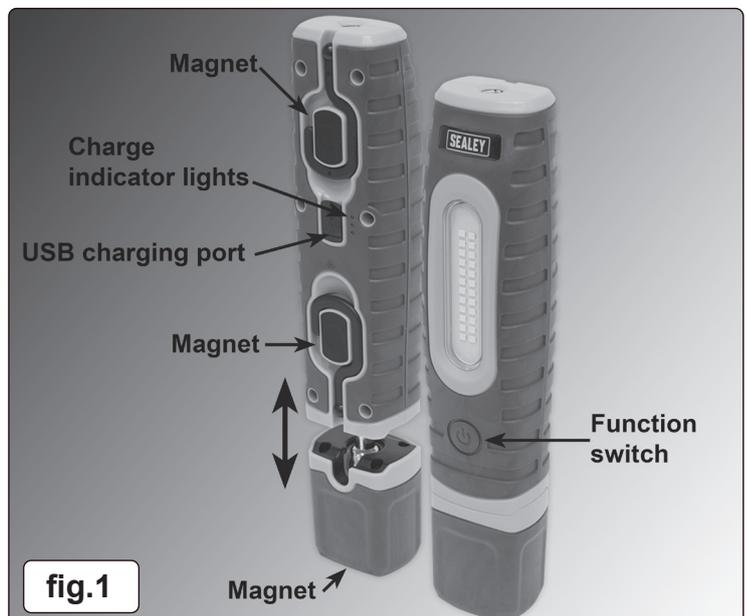

fig.1
- 4.1.1. To charge the light: insert the micro USB plug on the USB cable into the charging port on the back of the light (fig.1).
- 4.1.3. The charge indicator lights (fig.1) will light in sequence to show the current level of charge, each charge level being shown by a flashing green before becoming solid.
4.2.1. To switch the light on, press the function switch (fig.1) to select the required function: